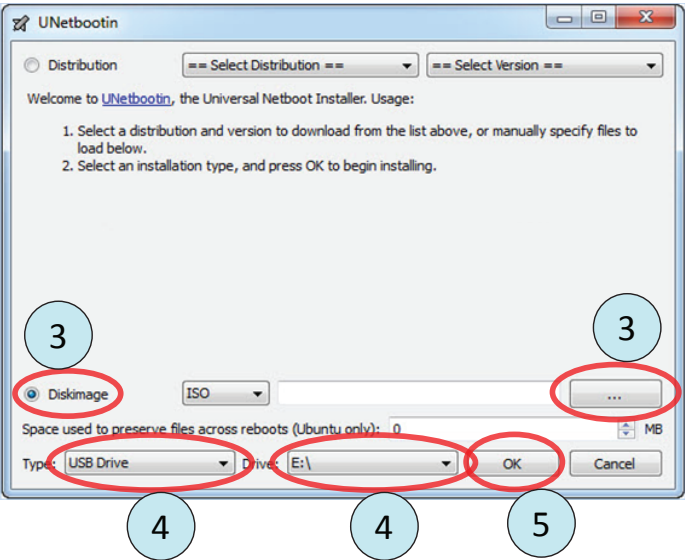

Figure E8. Initial UNETBOOTIN application window.
- 2) Run the UNETBOOTIN application. The UNETBOOTIN window (shown in figure E8) will open.
- 3) Select the **Disk Image** option, then click the '...' button (both are circled in figure E8). Locate and select the Dialed In ISO file you downloaded from the Jersey Jack Pinball® website.
- 4) Ensure that the **USB Drive** is selected under **Type** and the USB stick you inserted earlier ("E:\\" in this example) is selected under **Drive** (both are circled in figure E8).